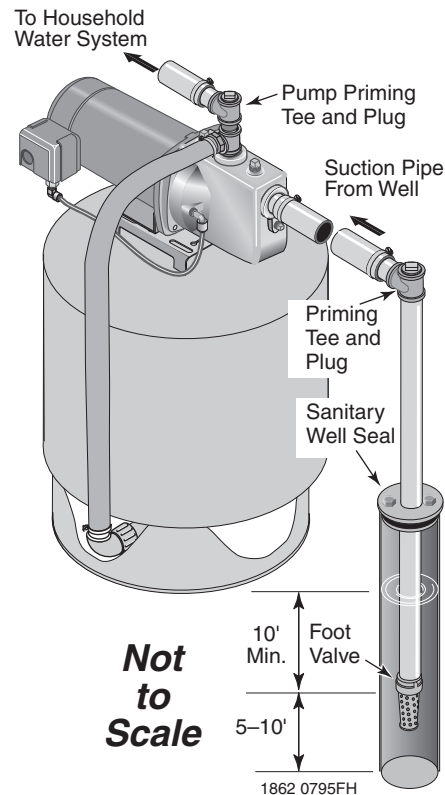

Figure 2: Cased Well Installation
## CASED WELL INSTALLATION, 2" OR LARGER CASING (FIGURE 2)
- Step 2. Assemble the foot valve, strainer, and well pipe (see Figure 2). Make sure that the foot valve works freely.
Step 4. Install a priming tee, priming plug, and suction pipe to the pump (see Figure 2). Connect the pipe from the well to the pump suction port, using the fewest possible fittings – especially elbows – as fittings increase friction in the pipe (however, include a foot valve – see Figure 2). The suction pipe should be at least as large as the suction port on the pump. Use teflon tape or a teflon-based pipe joint compound on threaded pipe joints. Support the pipe so that there are no dips or sags in the pipe, so it doesn't strain the pump body, and so that it slopes slightly upward from the well to the pump (high spots can cause air pockets which can air lock the pump). Seal the suction pipe joints with teflon tape or a teflon based pipe joint compound. Joints must be air- and water-tight. *If the suction pipe can suck air, the pump cannot pull water from the well.*